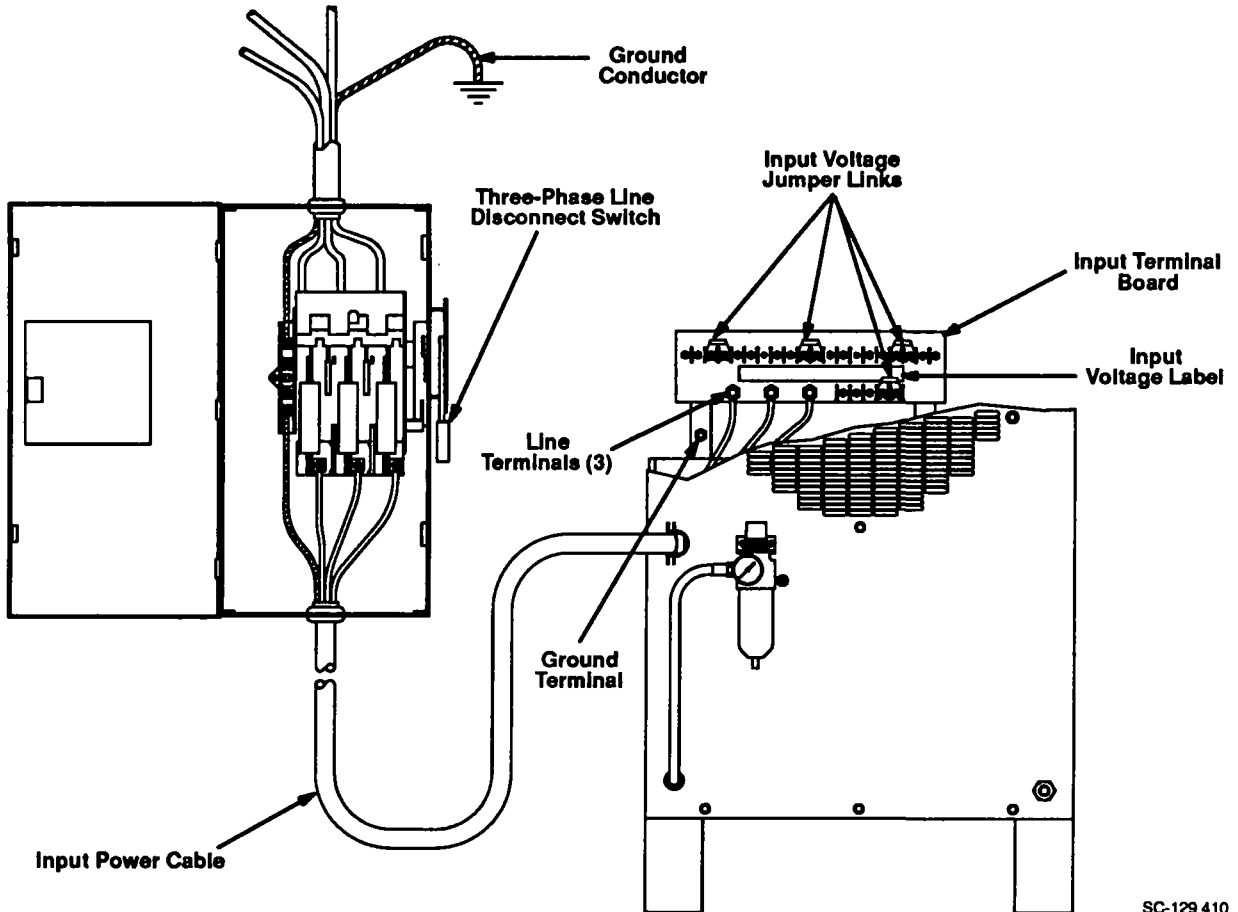

Figure 4-5. Location Of Electrical Input Connections And Components
(Table 4-1 And Figure 4-5)
B. Jumper Link Installation (Figure 4-5)
- Position jumper links as shown on the input voltage label (see Figure 4-5).
C. Power Source Input Power Connections (Figure 4-5)
5. Connect input conductors to line terminals on the input terminal board (see Figure 4-5).
6. Connect the ground conductor to the ground terminal (see Figure 4-5).